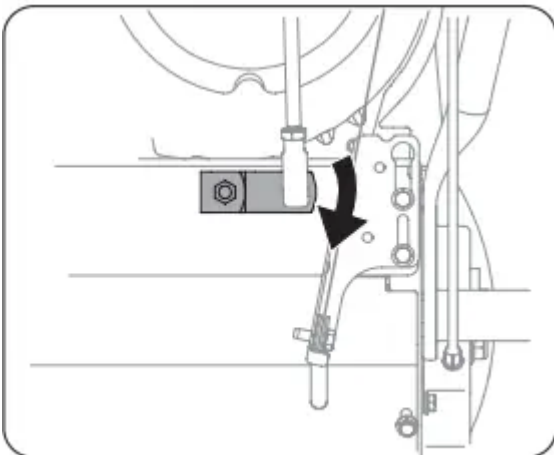

Figure 32
- Make sure the shift lever on the back of the transmission is rotated downward to the full extent of its rotation. See Figure 32.